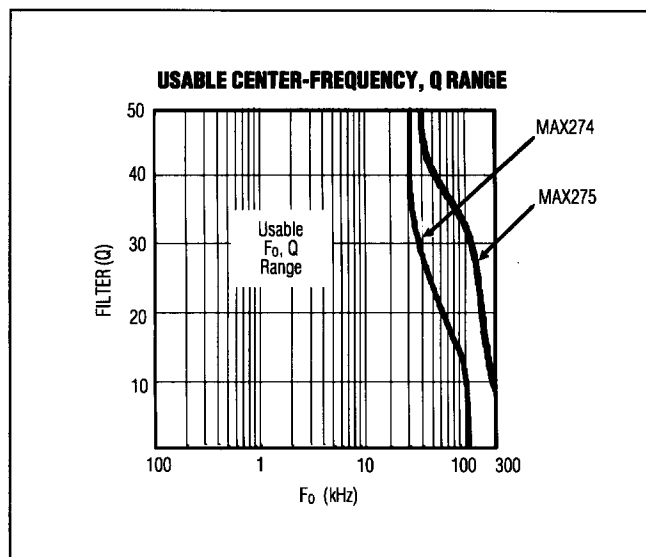

Figure 4. Usable F_o , Q Range. See Translating F_o/Q Pairs into Hardware (Resistor Selection).
1. Check all F_o/Q pairs for realizability. The MAX274/MAX275 have limits on which F_o/Q values can be implemented. These limits are bound by finite amplifier gain-bandwidth and amplifier load drive capability (which limit the highest frequency F_o /highest Q_s) as well as amplifier noise pickup and susceptibility to errors caused by stray capacitance (which sets a low-frequency limit on the poles). Refer to Figure 4 to be sure each F_o/Q pair is within the "realizable" portion of the graph. If filter Q_s are too high, reduce them by increasing the filter order (that is, increase the number of poles in the overall filter).
High-frequency F_o s (up to 400kHz) and high Q s outside of Figure 4's limits are also realizable, but F_o and Q will deviate significantly from the ideal. Adjust resistor values by prototyping.